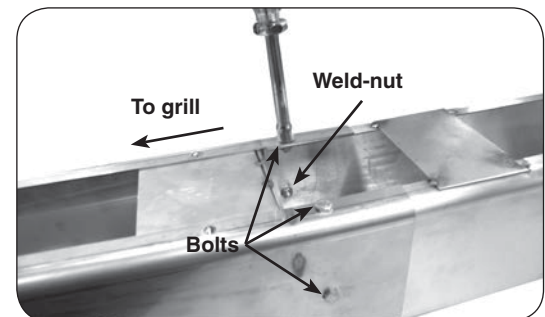

Fig. 19-2 Fasten extension to post
2. From outside the joined post and extension, insert one of the $\frac{1}{4}$ X 20"-5/8 bolts (supplied) into each of the five (5) bolt holes and tighten each using a $\frac{7}{16}$ " socket driver or wrench (see Fig. 19-2).